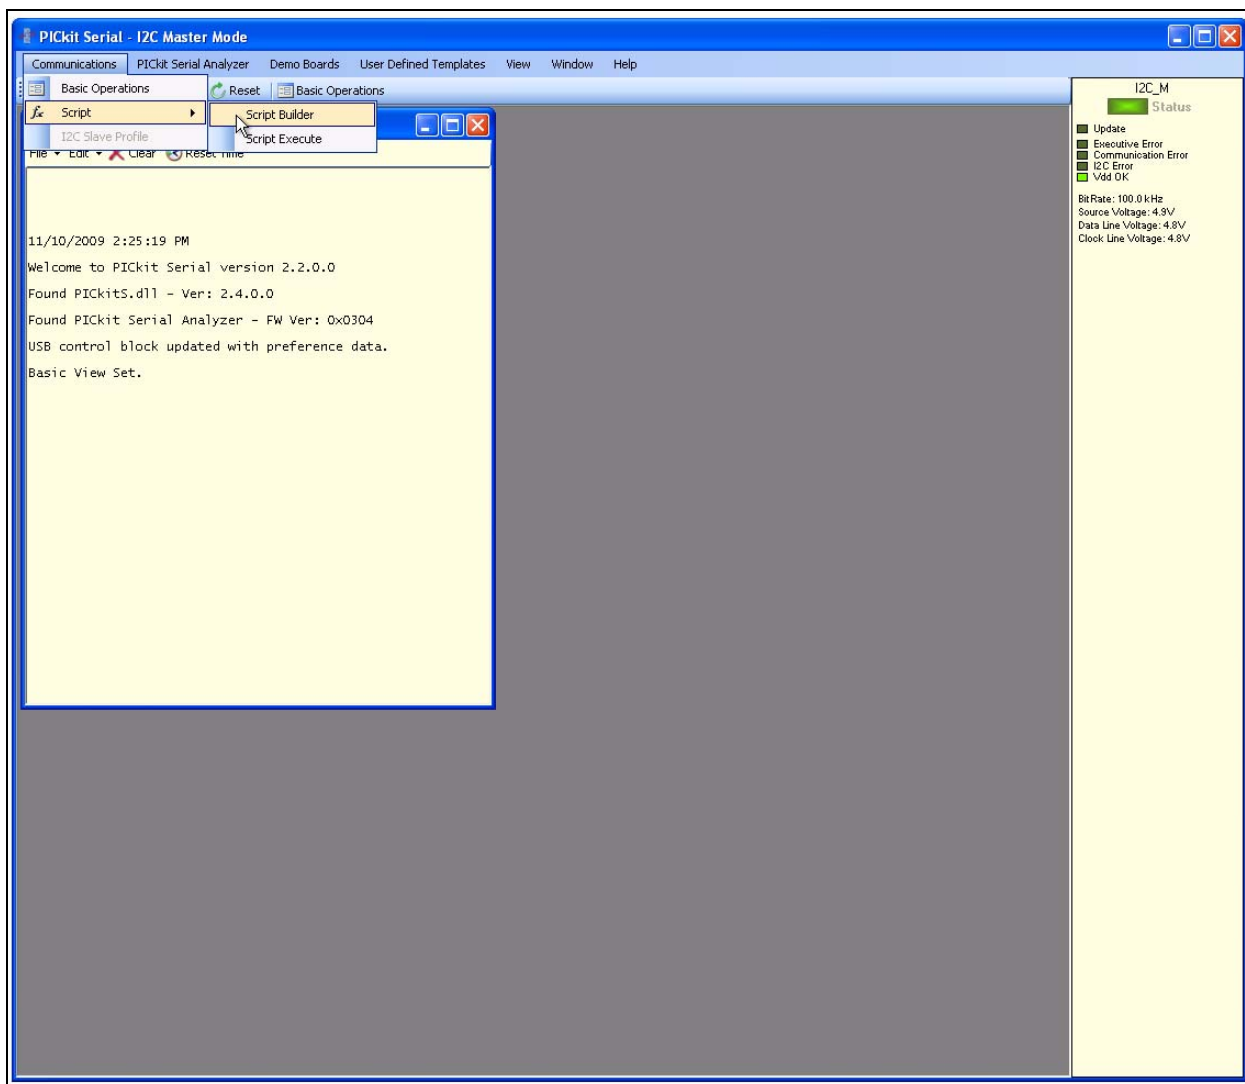

FIGURE 2-7: PICKit Serial - Script Bulider Menu Selection.
Now we are going to create some custom scripts to match the MCP40D18 read and write commands. To open the Script Builder window, select the Communications -> Script -> Script Builder menu item (see Figure 2-7).
7. Open the Script Builder window (see Figure 2-7).